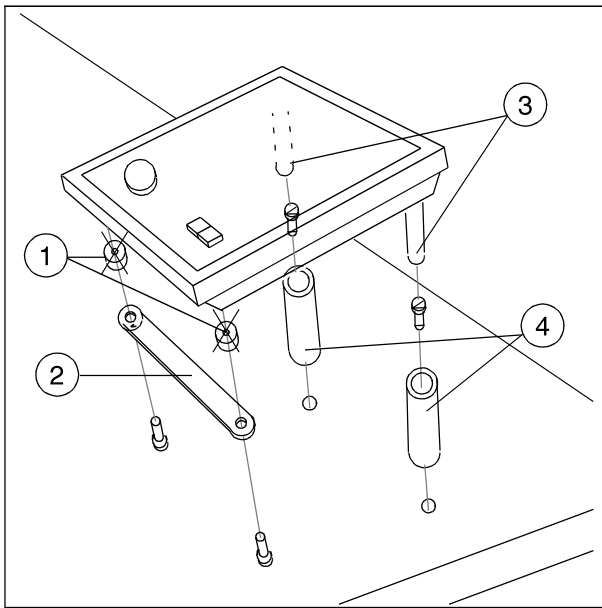

Fig. 3:
- Remove the 2 rubber feet (1/Fig. 3 / p. 9) on the base plate of the control console and attach the rail (2/Fig. 3 / p. 9) with 2 Allen screws.
- Pivot out the control console base (3/Fig. 3 / p. 9). Push the two sleeves (4/Fig. 3 / p. 9) on the feet (note angle). Set the control console on the work table, align it and mark the sleeves.